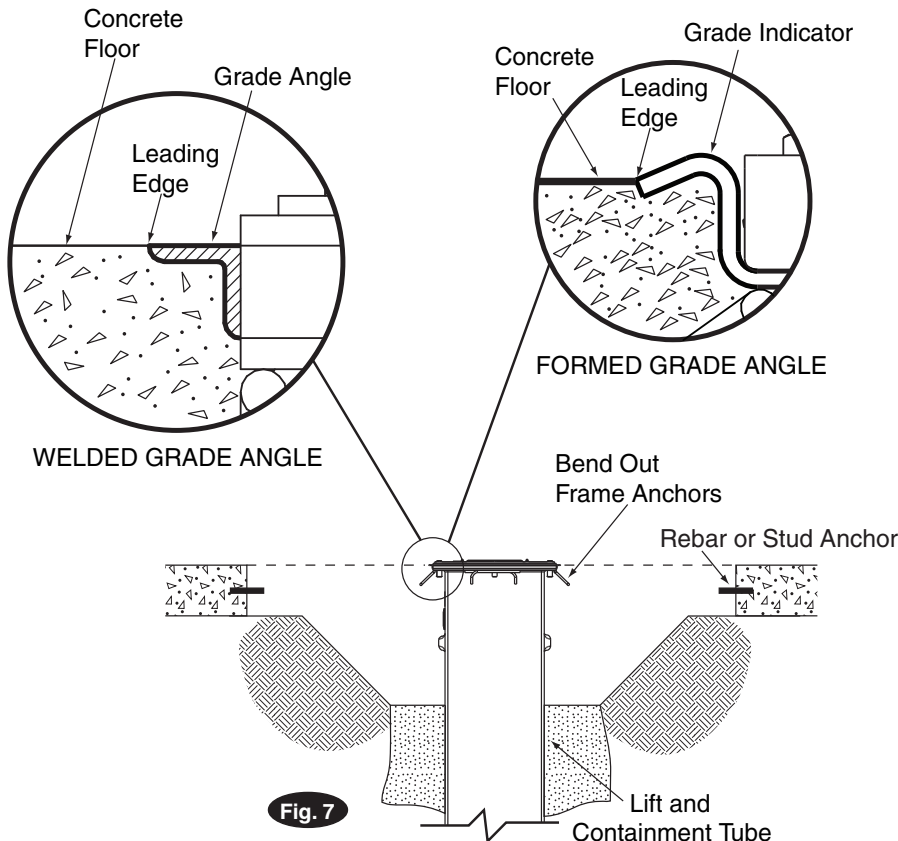

Fig. 7
D. Make sure frame anchors are bent out, Fig. 7.
B. New concrete around the lift must be keyed into existing floor with rebar or stud anchors, Fig. 7.
**IMPORTANT** Owner: Your Installer Is Responsible For The Concrete Floor Being Finished To The Leading Edge Of The Grade Angle (1/4" Below Top Of Lift), NOT To The Top Of The Lift, Fig. 7. Failure To Comply Will Void Warranty.